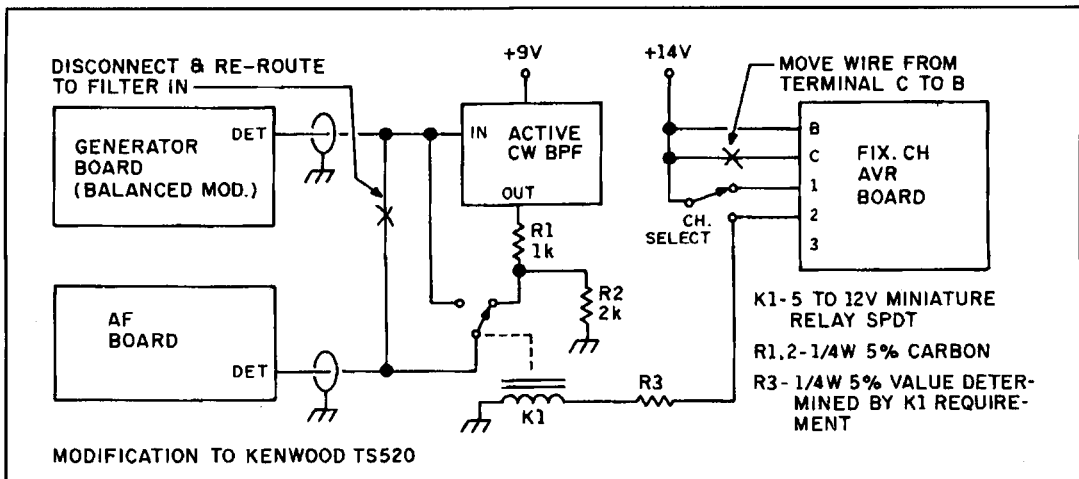
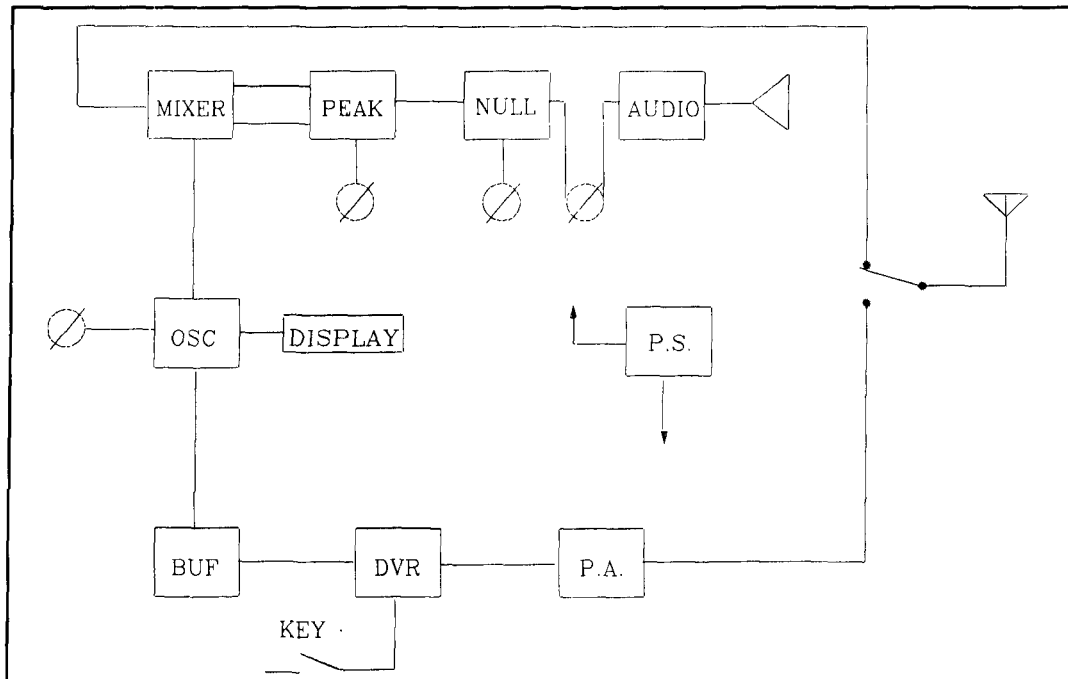

Figure 5. Modification to the Kenwood TS-520.
Figure 4. Block diagram of the receiver and transmitter.
balanced modulator (BM) board. The filter board was secured on one end to a pair of small brass threaded standoffs. The standoffs were soldered to the top of the steel wall that separates the RF section from the remaining circuitry. The relay (K1 of **Figure 5**) used to switch the filter in and out, was located adjacent to the filter board. It could be included on the filter board if desired.
Resistors R1 and R2 of **Figure 5** are used to
As I've said, the receiver is designed to work on either 80 or 40 meters with some minor component changes. **Figure 4** is a block diagram of the receiver and transmitter. **Figure 5** shows the receiver schematic. The NE602N is a double-balanced mixer (or in this case a product detector) similar to the MC1496, but with all of the required external resistors built in.